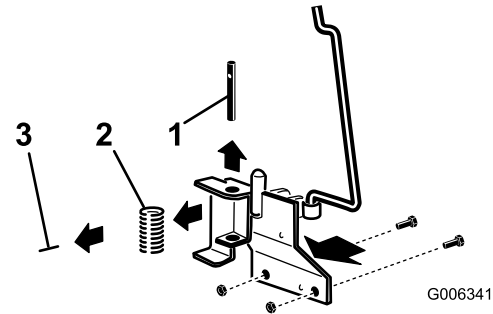

Figure 3
8. Remove the roll pin securing the spring and pin to the seat support bracket (Figure 3) Remove the spring and the pin from the bracket.
23. Connect the wire harness adapter to the traction unit main wire harness connector (Figure 3).